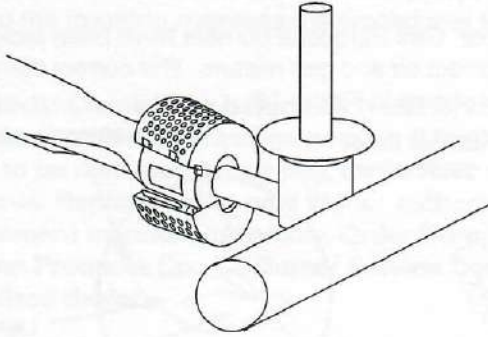

Figure 13
- d) Unlatch the Spider Stopper Guards and remove. Figure 13.